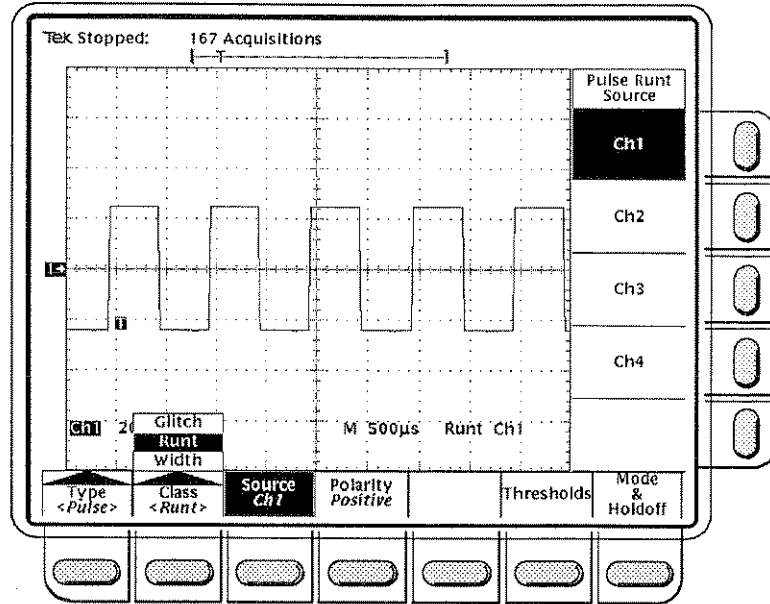

Figure 3-57: Main Trigger Menu – Runt Class
- Step 1:** Press the **TRIGGER MENU** button to call up the Main Trigger menu (Figure 3-57).